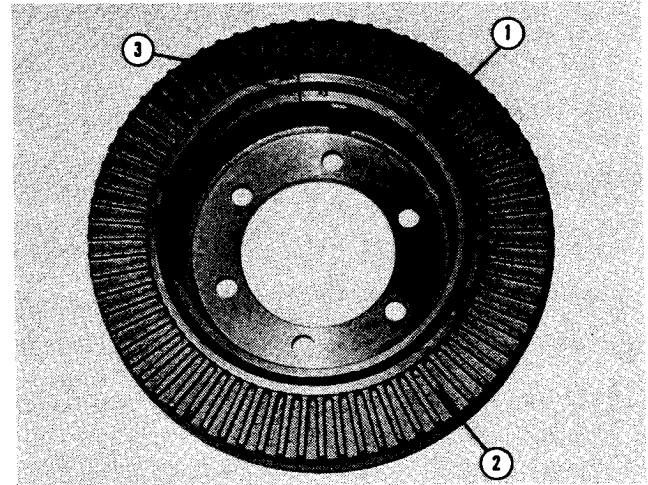

Fig. 1-8, (N10146). Vibration damper alignment marks
2. Check for alignment of index marks (3, Fig. 1-8) on damper hub (1) and inertia member (2). If out of alignment more than 1/16 inch [1.59 mm], discard damper.